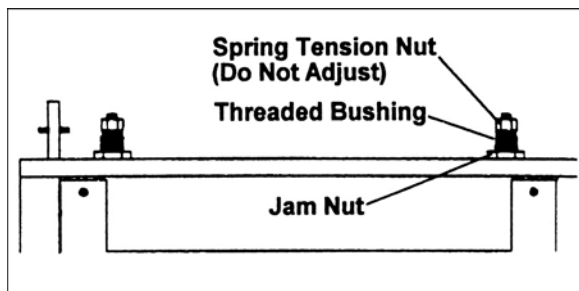

Figure 12
8. Raise or lower the feed roller until it rests on top of the block end to end. To adjust the feed roller (Fig 12):